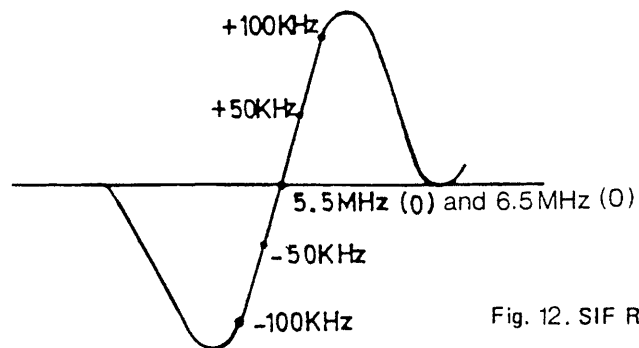

Fig. 12. SIF Response Curve
5. Adjust T104 for the marker (5.5MHz & 6.5MHz) of SIF waveform at the centre position Fig. 12